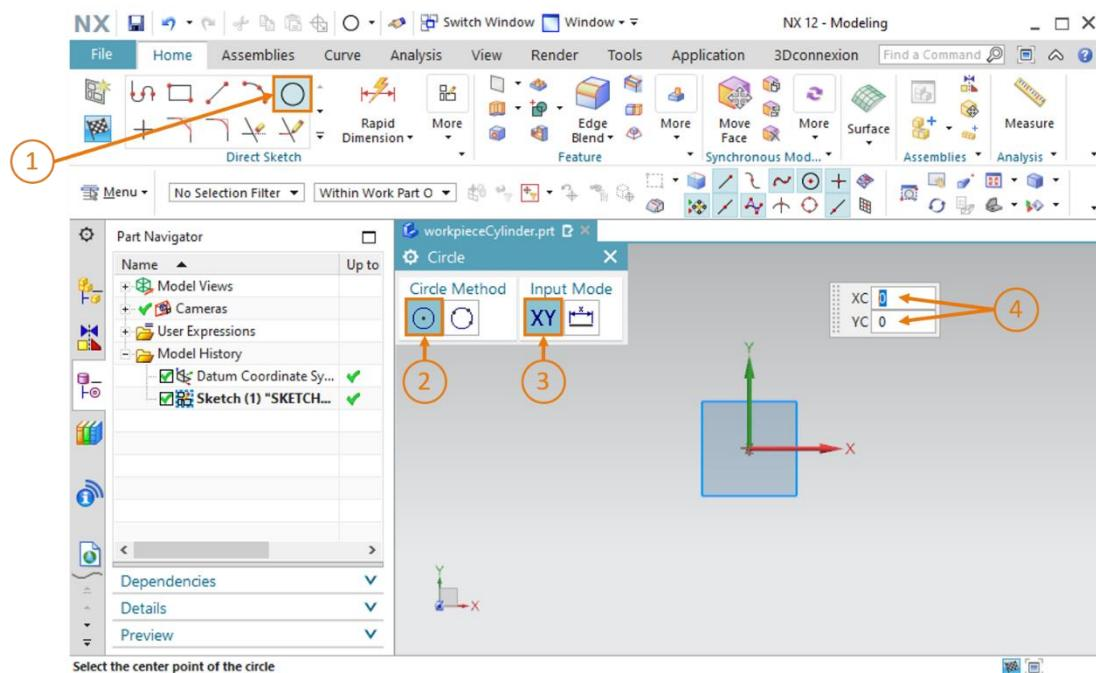

Figure 15: Preparing the sketch for the cylinder – Part 1
**Circle** button  in the sketching function selection menu (see Figure 15, step 1). A new "Circle" window appears. This offers several options for sketching a circle. Select "**Center point and diameter**" as the circle method (see Figure 15, step 2), activate the **coordinate mode** for entering the center of the circle (see Figure 15, step 3) and specify the coordinates **XC = 0** and **YC = 0** (see Figure 15, step 4). You must confirm these inputs by pressing the Enter key.